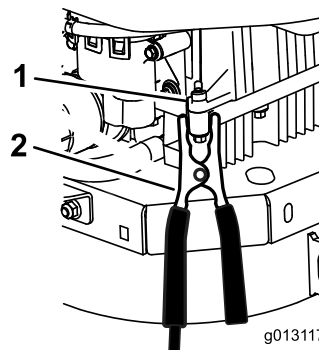

Figure 65
6. Make the final connection on the engine block of the stalled machine (not to the negative battery post), away from the battery, and stand back (Figure 65).